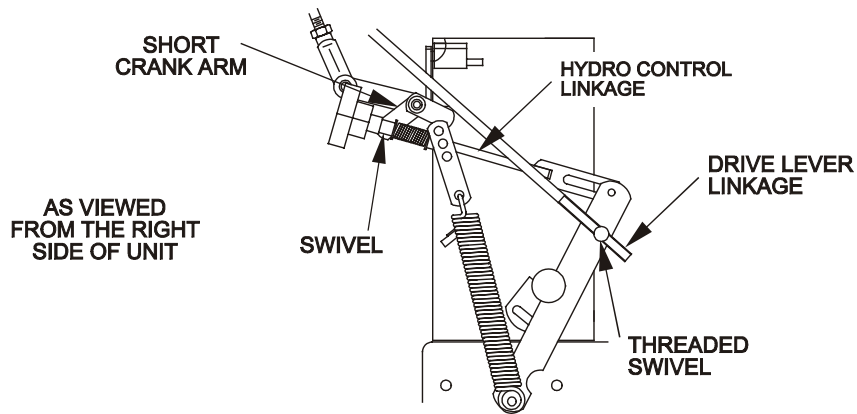
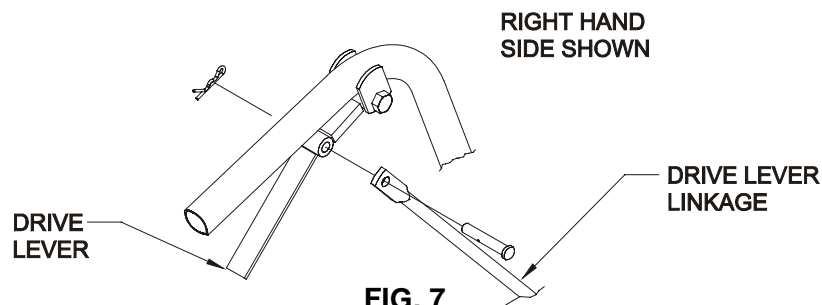

FIG. 6
FIG. 7
- 3.13 **For Standard Pistol Grip Handles:** Thread each drive lever linkage into the threaded swivel. (See Figure 6). Connect the upper end of each drive lever linkage to the drive levers. Fasten with a long clevis pin and cotter pin from the bolt bag. Be sure the clevis pin is first inserted through the drive linkage and then through the drive lever from the outside before installing the hairpin cotter (See Figure 7). See Section 5.2.6 step d) for linkage adjustment.